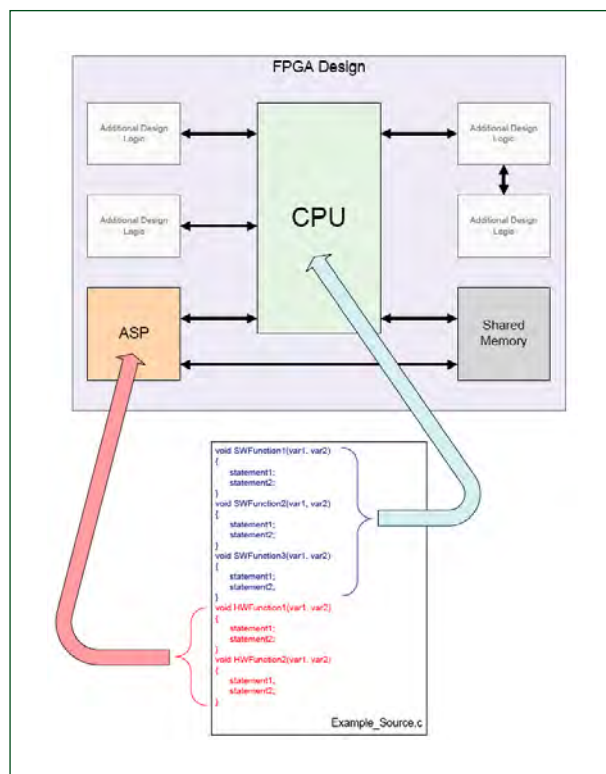

Figure 3. Speed-critical C functions are implemented in hardware; less critical functions run on the CPU.
2. The second use is in increasing the speed of a processor-based system. Here the C source code for selected software functions is converted into hardware in such a way that they can still be 'called' from the main embedded program, which is now running in a processor implemented in the FPGA. The C-to-Hardware compiler is used in conjunction with the embedded software compiler which is also part of the design suite. Implementing speed-critical functions in hardware can result in enormous increases in speed (**Figure 3**).